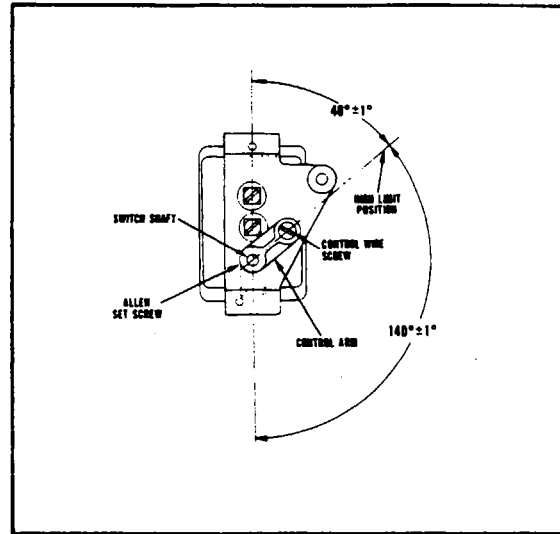

Figure 13-40. Top View - Duct Switch (Typical Control Lever Positions)
13-143. DUCT SWITCH. (Refer to Figure 13-40.) This switch is installed in the ventilating air duct downstream from the heater to sense the ventilating air outlet temperature. To select the desired cabin temperature, the switch may be adjusted manually from a high of $250^{\circ}\text{F} \pm 10^{\circ}$ downward through a range of $146^{\circ}\text{F} \pm 6^{\circ}$. The switch has a differential of $10^{\circ}\text{F} \pm 5^{\circ}$ at any given setting.
- h. Connect the duct switch control cable to the switch on the left side of the air distribution box. Adjust the cable so that when the control knob is full in against its stop, the control arm aligns with the vertical line of the switch. (Do not loosen the Allen set screw that secures the arm to the switch shaft.) Pull the control knob out to ascertain that the control arm will have a $140^{\circ} \pm 1$ travel to high heat position. (Refer to Figure 13-40.)